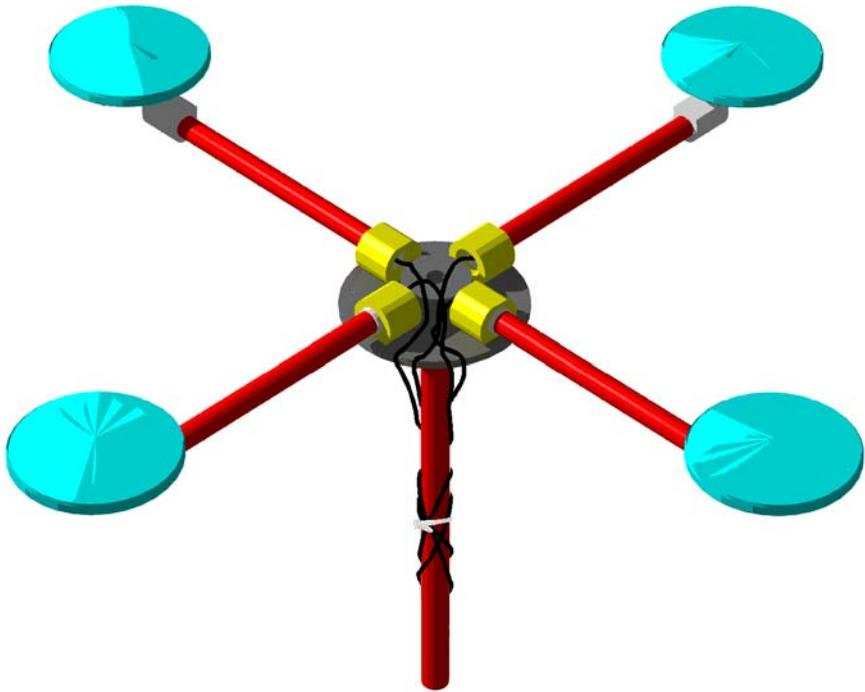

Figure A.8. Completed Fixed Portable Antenna Array
9. The completed antenna array (Figure A.8.) can now be mounted. Magellan recommends using the 1 inch standard pipe fitting.